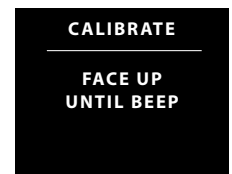

Fig. 88B - AFTER BEEP (turn unit right side up)
- > Turn the unit over (face down) until it beeps, then turn it over (face up) until it beeps (Fig. 88B), after which a screen appears displaying the graphics CALIBRATE with ROTATE 360° KEEP LEVEL (Fig. 88C).